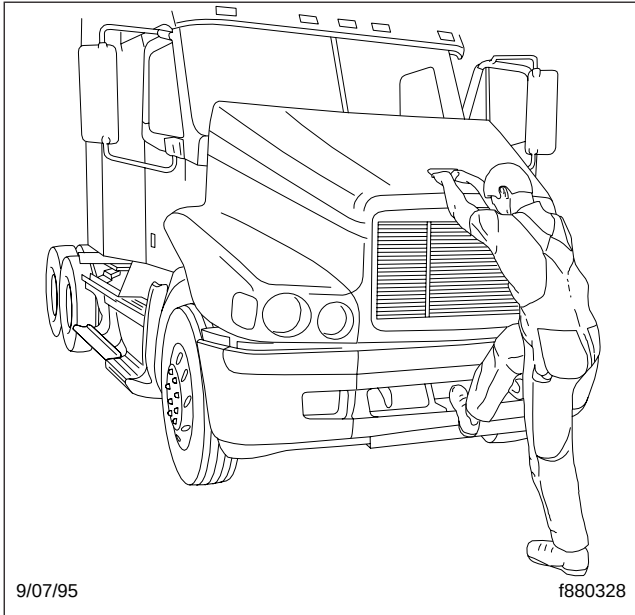

Fig. 3.8, Hood Tilting
3. Using the bumper step and grab handle, slowly tilt the hood until the straps support it. See **Fig. 3.8**.
2. As the hood goes over center, use the bumper step and grab handle to control the rate of descent to the operating position. See Fig. 3.8.